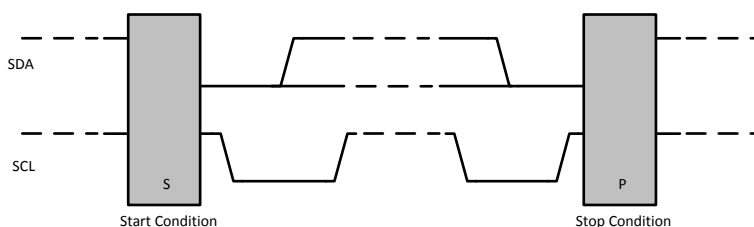

图 31. I²C Start and Stop Conditions
The LM36922 is configured via an I²C interface. START (S) and STOP (P) conditions classify the beginning and the end of the I²C session 图 31. A START condition is defined as SDA transitioning from HIGH to LOW while SCL is HIGH. A STOP condition is defined as SDA transitioning from LOW to HIGH while SCL is HIGH. The I²C master always generates the START and STOP conditions. The I²C bus is considered busy after a START condition and free after a STOP condition. During the data transmission the I²C master can generate repeated START conditions. A START and a repeated START conditions are equivalent function-wise. The data on SDA must be stable during the HIGH period of the clock signal (SCL). In other words, the state of SDA can only be changed when SCL is LOW.